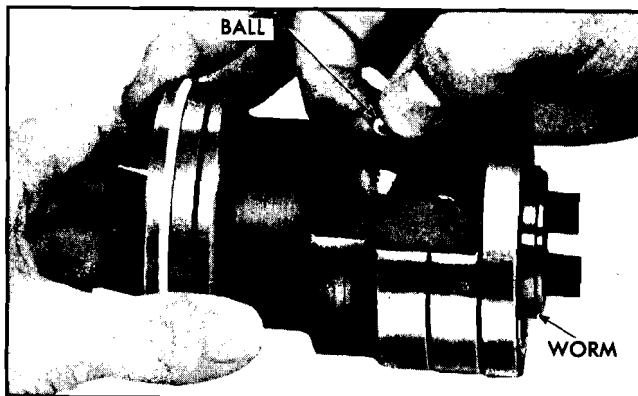

Fig. 9-73 Loading Rack Piston Nut
2. Insert worm into rack-piston nut to bearing shoulder (Fig. 9-73).